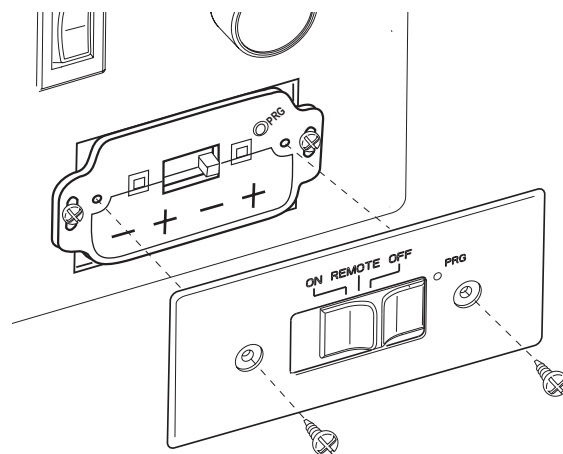

Figure 62. Access Receiver batteries.
1. Push the slider switch into the OFF position. Remove the Receiver cover plate screws and pry the cover plate with slider switch off of the battery box. See fig. 62.